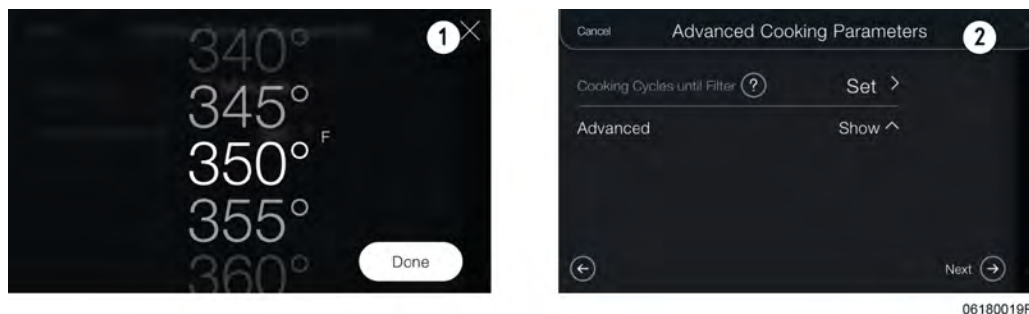

Figure 5-11
2. **Cooking Temperature** - Tap **Select**. Swipe up or down to select the cooking temperature (1) Figure 5-11 , page 45. Tap **Done**, and then tap **Next** to continue.
3. **Cooking Cycles until Filter** - Determines how many of this food item can be cooked before an express filter prompt is displayed (2) Figure 5-11 , page 45. Tap **Set**, and then swipe up or down to select cooking cycles until filter. Tap **Done** to continue.